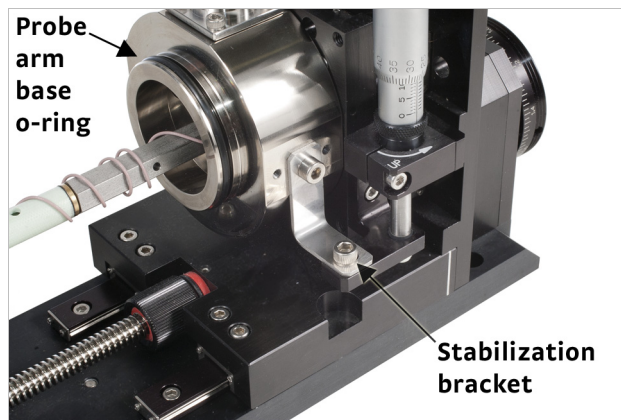

FIGURE 5-11 Orientation of the probe arm base in the z-axis stage and location of the stabilization bracket
1. Insert the probe arm base into the z-axis stage. Orient the probe arm base as shown in FIGURE 5-11, and hold it in place. Precise alignment is not necessary.
3. If you do not have a planarization assembly, using the 3 mm hex driver, tighten the M4 screw to secure the stabilization bracket to the probe arm base (FIGURE 5-11).
6. Clean the o-ring groove in the probe arm base (FIGURE 5-11). Clean, inspect and lightly grease the o-ring with vacuum grease and place it in the groove.